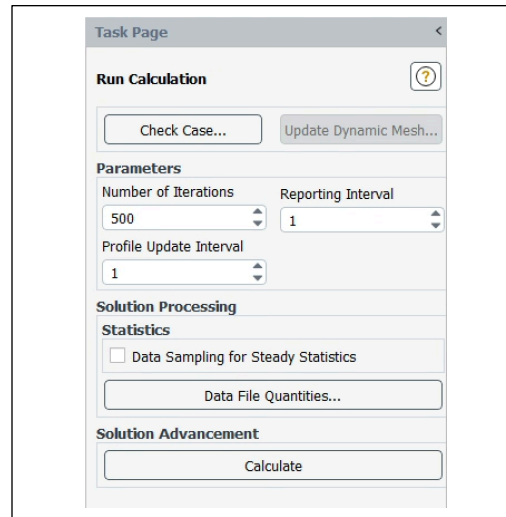

Figure 20. Running the steady-state solver.
3.8.2. In the **Task Page** pane, set the **Number of Iterations** to **500**, as shown in Figure 20.